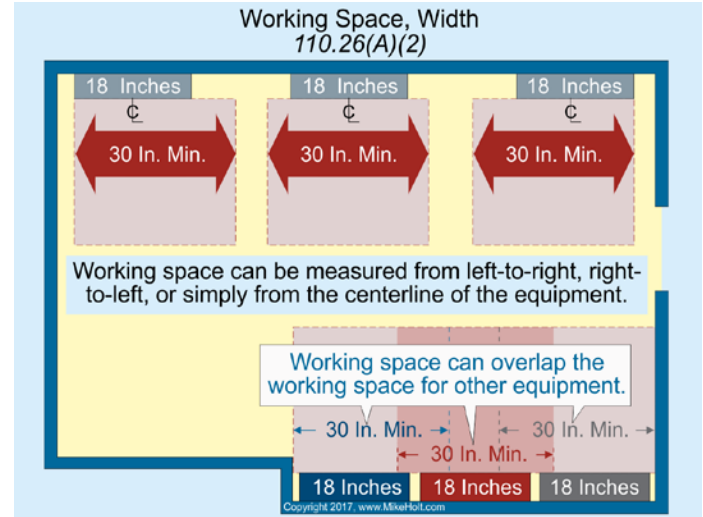

Figure 110-33
- The width of the working space can be measured from left-to-right, from right-to-left, or simply centered on the equipment, and can overlap the working space for other electrical equipment. Figure 110-33